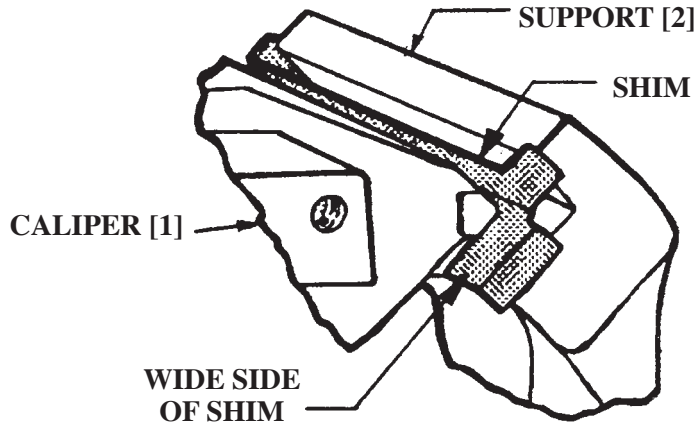

FIGURE 2
- B. Lift forward end of caliper enough to provide clearance between the caliper and the support rail at [A] to permit installation of the shim as shown in **Figure 2**.
NOTE: Widest side of shim is to fit up against widest surface of support rail. See Figure 2